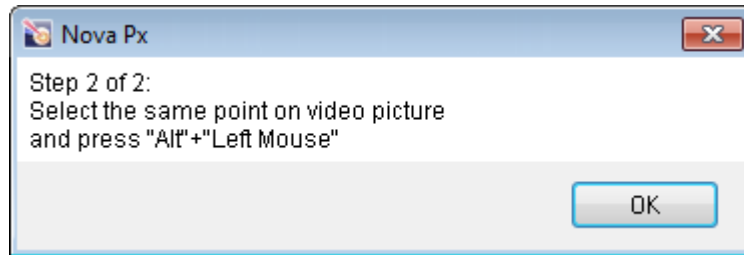

Fig. 7-20
4. When the sample carriage stops, a request on pointing to a desired point will appear again (Fig. 7-20). Close this box by clicking the **OK** button.